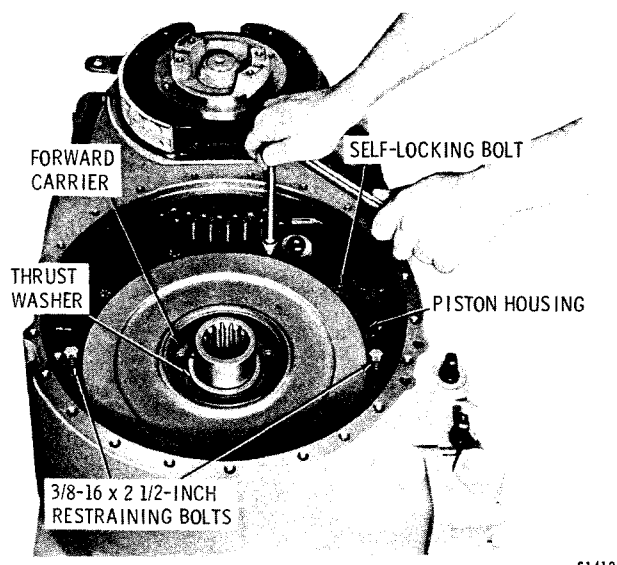

Fig. 5-26. Removing forward clutch piston housing bolts (-1 model)
(2) Replace two of ten self-locking bolts that retain the forward-clutch piston housing with two 3/8-16 x 2 1/2-inch bolts. Install the two bolts at opposite sides of the piston housing (fig. 5-26).
(3) Remove the eight remaining self-locking bolts which retain the piston housing (fig. 5-26). Then, loosen the two restraining bolts evenly and remove them.